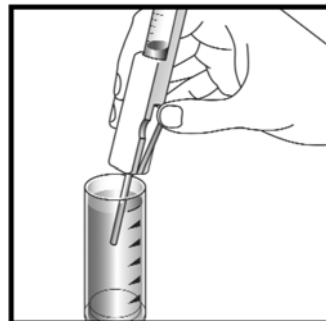

Figure 5
5. Hold the titrator with the sample pipe in the sample and press the control bar firmly, but briefly, to pull in a small amount of sample (Figure 5). The contents will turn a PINK color.